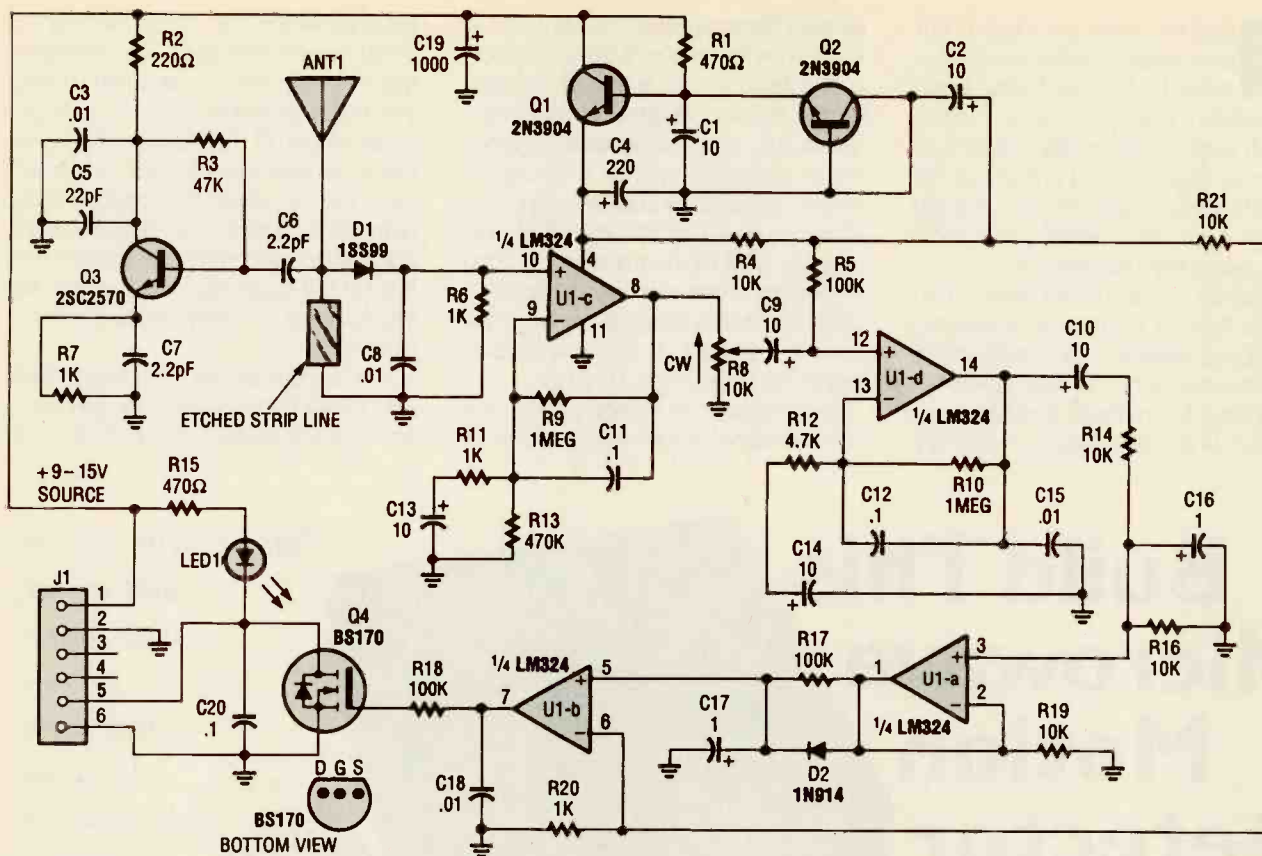

Fig. 1. The Microwave Motion Detector is essentially a combination transmitter/receiver circuit built around four transistors, and a quad op-amp.
**Circuit Description.** The Microwave Motion Detector is nothing more than a combination transmitter/receiver circuit that's built around four transistors, and a quad op-amp. A schematic diagram of the Microwave Motion Detector is shown in Fig. 1. In that circuit, Q3 (a 2SC2570 high-frequency NPN silicon transistor) is configured as a free-running (astable) RF oscillator that is designed to operate at the low end of the microwave band (approximately 1.0 GHz).